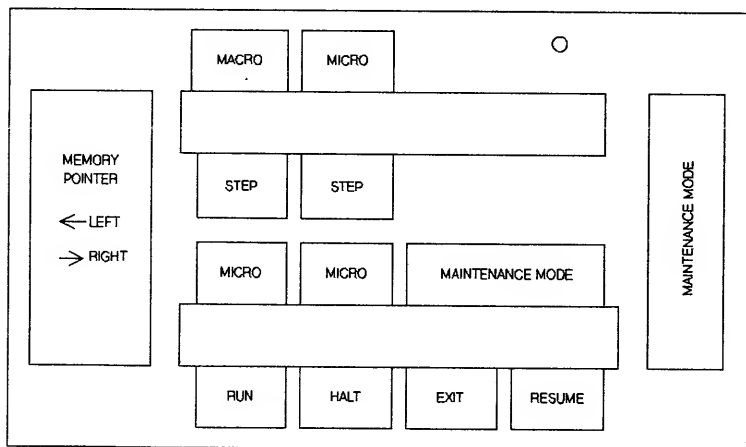

Figure 5-1. Special Keys (Series 30 and 33)
- Set the REMOTE key to the up position to place the console in the local mode, shown in Figure 5-1.